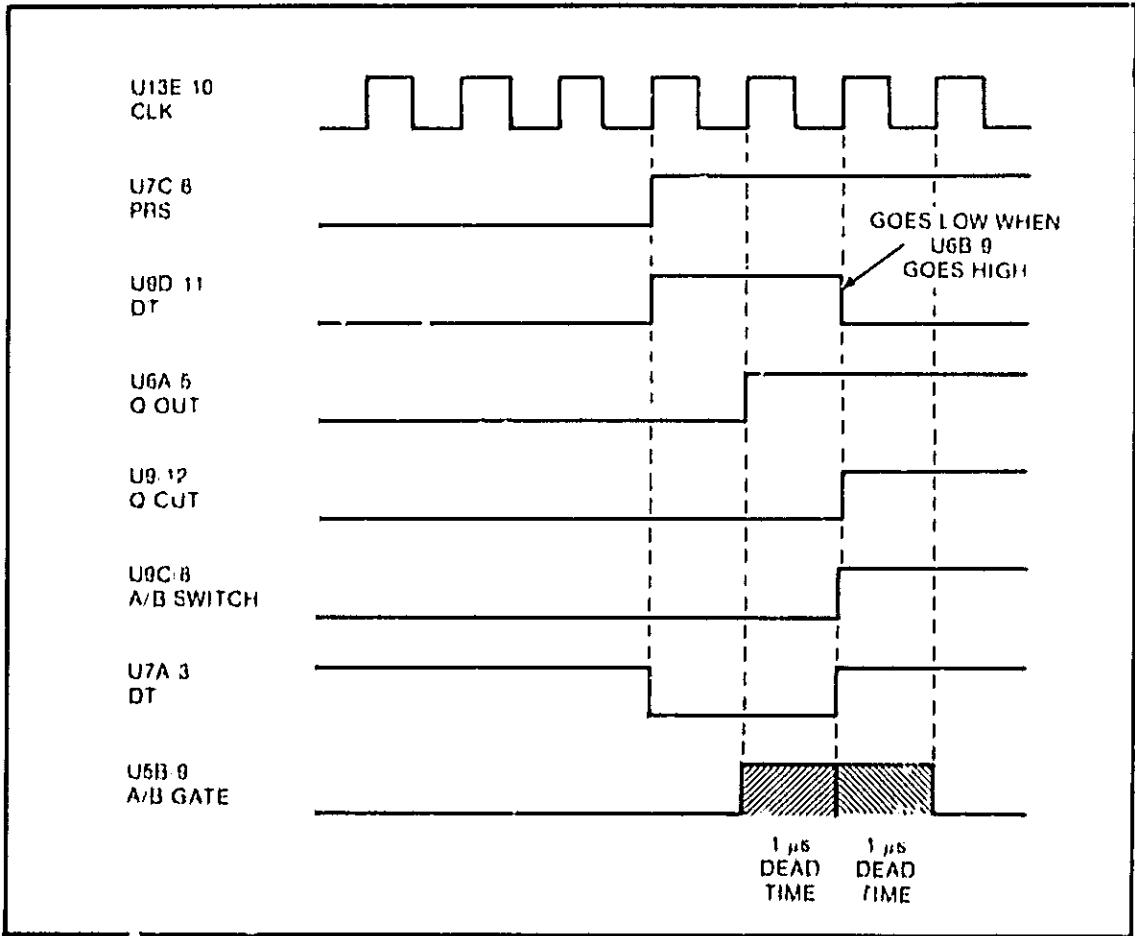

Figure 8-9. Deadtime Timing Diagram
8-141. Assume that U7C(8) and U6 pins 5 and 9 are Low (see Figure 8-9). U9D(11) and U5B(9) will also be Low. When U7C(8) goes High, DT goes High immediately because of U9D. This disables U2C and stops the PRS clock. The next 1 MHz clock pulse from U13E clocks the High into U6A and also causes the A/B GATE to go High, which stops the mainframe from counting. The next 1 MHz clock pulse places the High on U9D(12) and U9C(10). This causes the DT line to return Low to allow the PRS clock to restart, and it also causes the A/B SWITCH line to change state via U9C. The next 1 MHz clock pulse keeps the DT line at the same logic state but clocks the output of U5B Low (mainframe is gated on for counting).